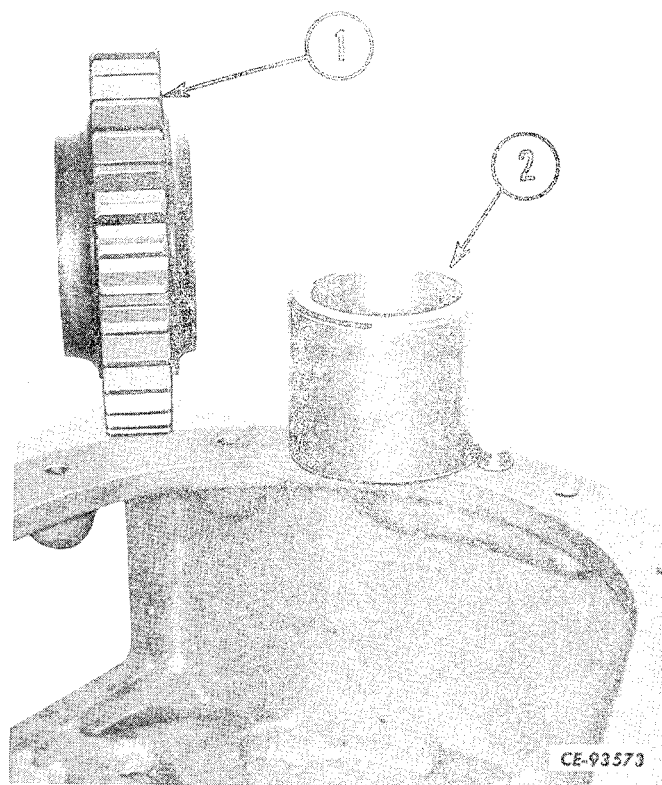

Figure 4-43
Remove gear (1, Fig. 4-43) and spacer (2) from housing.